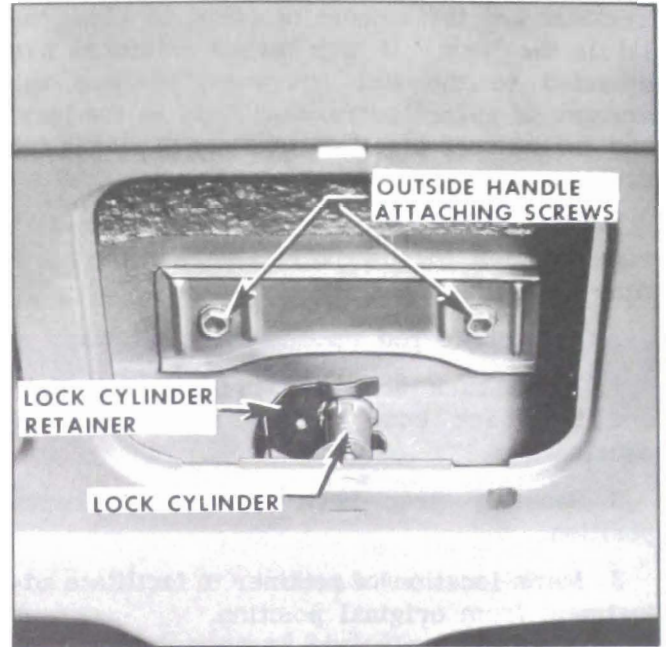

Figure 13-83 — Back Door Outside Handle Removal
2. Remove two (2) screws securing outside handle (see Figure 13-83) and remove handle and gaskets.
3. To install back door outside handle, first cement handle gaskets to handle with weatherstrip adhesive (black) and apply a coat of adhesive to surface of gaskets which contacts door outer panel. See Figure 13-83. Then, reverse removal procedure.
2. Using a hooked tool or other suitable tool, through access holes in door inner panel, pry out lock cylinder retaining clip (see Figure 13-83) sufficiently to allow removal of lock cylinder and gasket from outer panel.